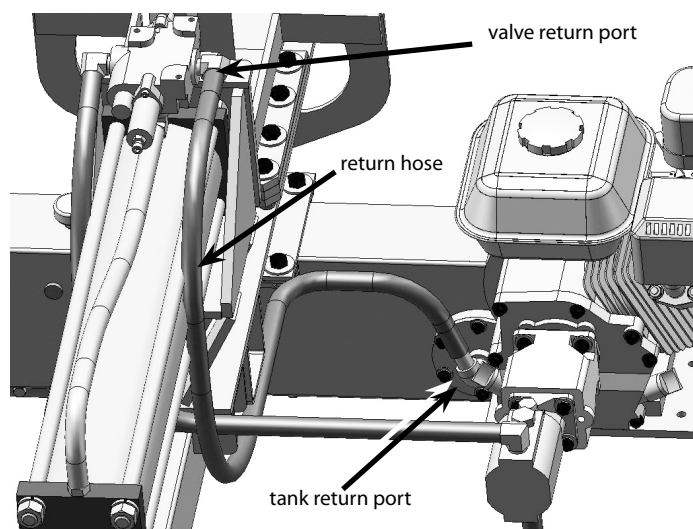

Figure 15
18. Attach the black flexible return hose to the return port on the tank and to the return port on the valve. Tighten securely using two hose clamps. **SEE FIGURE 15.**